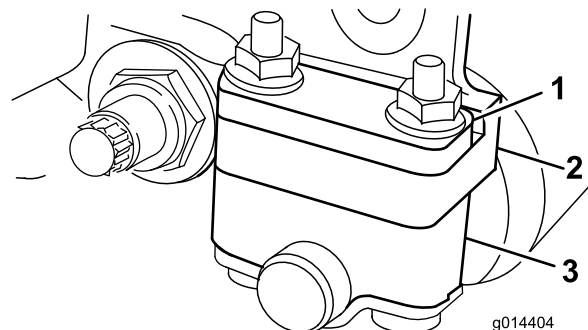
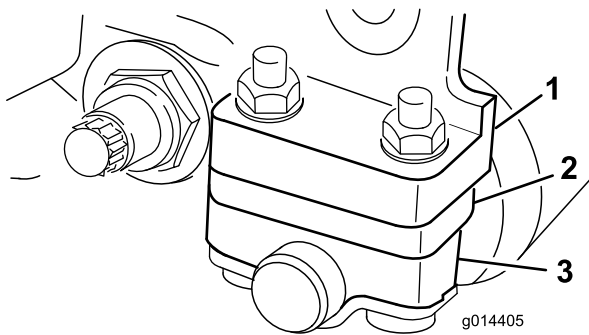

Figure 11
Figure 12
1. Adjust the rear roller brackets (Figure 11 or Figure 12) to the low or high position depending on the desired height of cut range.
Position the spacer above the sideplate mounting flange (factory setting) when height of cut settings range from 1/16 to 1/4 inch (Figure 11).
Position the spacer below the sideplate mounting flange when height of cut settings range from 1/8 to 1 inch (Figure 12).